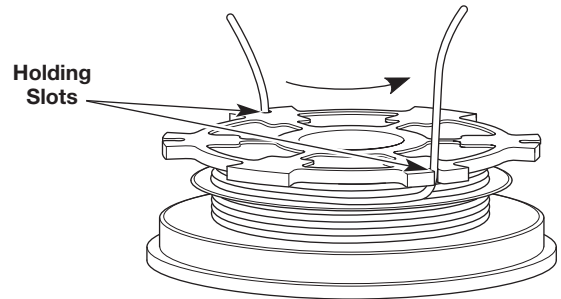

Fig. 20
3. Insert the two 6-inch sections into the two .095 holding slots (Fig. 20).
4. Insert the two 6-inch sections into the two .095 holding slots (Fig. 20).